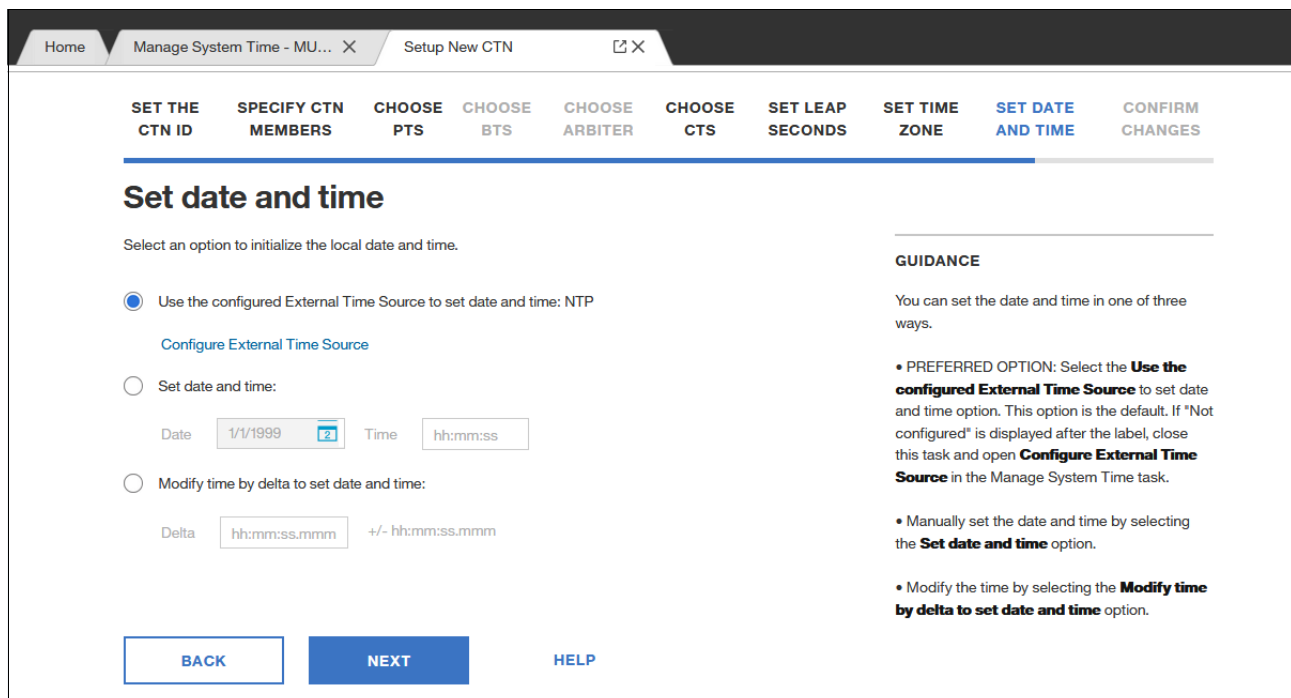

Figure 16-15 Set date and time
7. We proceed to setting the Leap Seconds, Time Zone information, and we set the date and time, as shown in Figure 16-15. We configured the External Time Source (ETS) in steps 1 - 4, as described in 16.2.1, “Configuring External Time Source on the Support Element” on page 394.